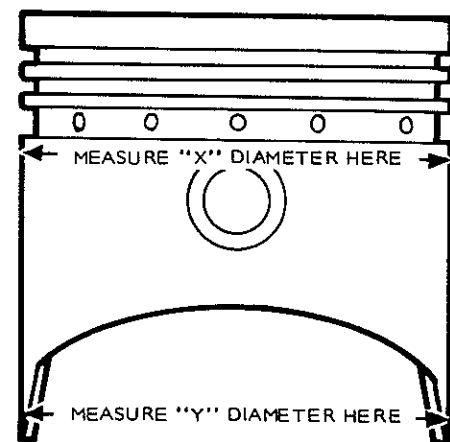

FIGURE 16-7. POSITIONS FOR MEASURING DIAMETERS OF PISTONS
- b. Measure piston as shown in Figure 16-7 to be sure total piston-to-cylinder clearance follows specifications. See Section 4 for piston dimensions.